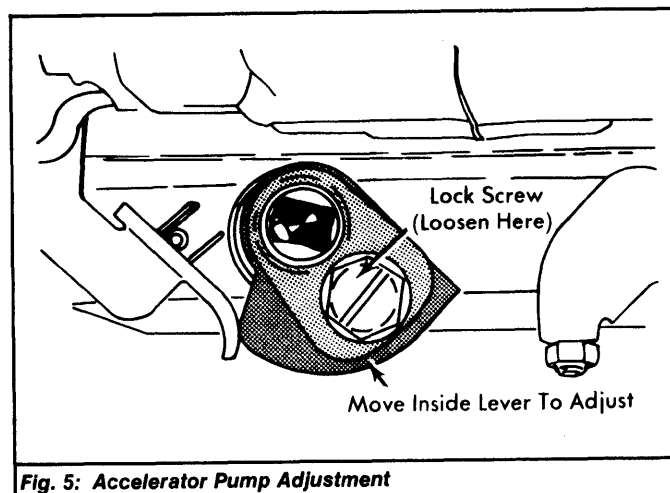

Fig. 5: Accelerator Pump Adjustment
2) While holding choke open, slowly accelerate throttle 10 times. Divide quantity of fuel by 10, to determine quantity per stroke. If quantity per stroke is not 1 cc, loosen lock screw on bellcrank and adjust inside lever. See Fig. 5.